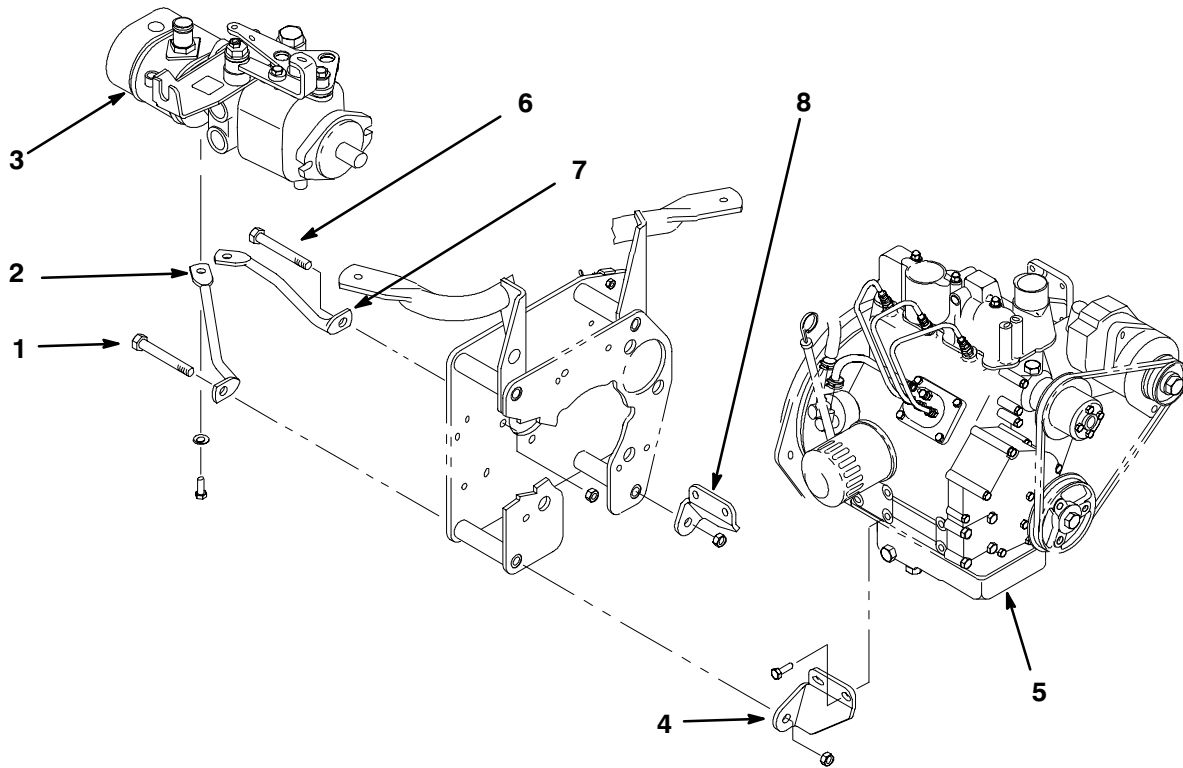

Figure 2
6. Remove bottom left capscrew, (2) washers and nut securing backing plate and spacer to pump plate (Fig. 2).
7. Loosely mount left brace and left engine bracket to backing plate, spacer and pump plate with a new M12 x 140MM capscrew and nut. Position components as shown in figure 2.
8. Loosely mount left brace to underside of pump with a 3/8-16 x 3/4" lg. capscrew and flat washer (Fig. 2).
9. Loosely mount engine bracket to engine with (2) M10-1.5 x 20 capscrews (Fig. 2).
10. Remove bottom right capscrew, (2) washers and nut securing backing plate and spacer to pump plate (Fig. 2).
11. Loosely mount right brace and right engine bracket to backing plate, spacer and pump plate with a new M12 x 140MM capscrew and nut. Position components as shown in figure 2.
12. Loosely mount right brace to underside of pump with a 3/8-16 x 3/4" lg. capscrew and flat washer (Fig. 2).
13. Loosely mount engine bracket to engine with (2) M10-1.5 x 20 capscrews (Fig. 2).